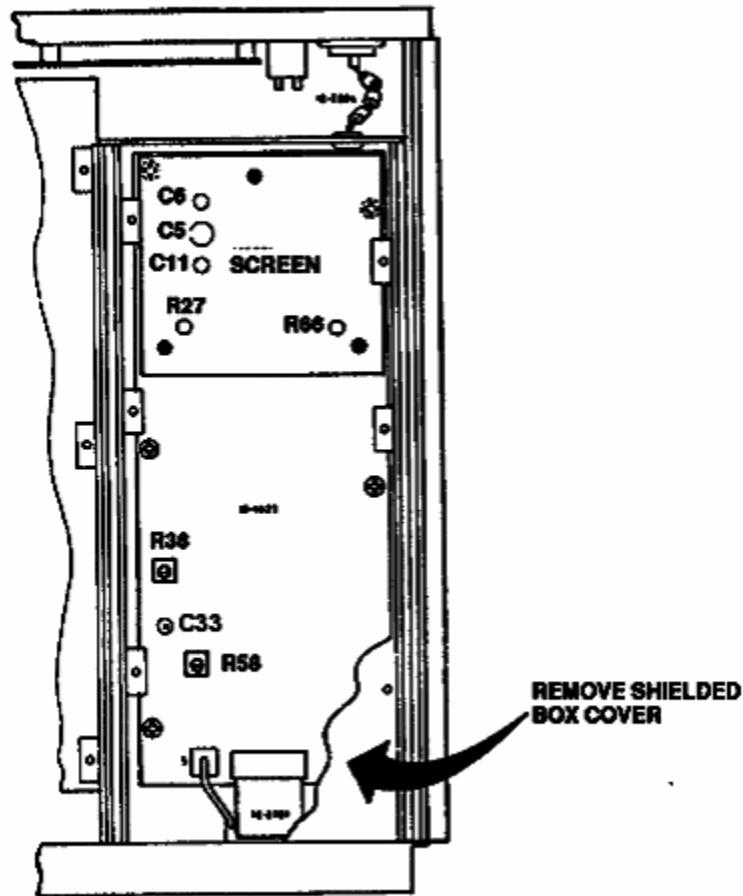

Figure 2. View of underside of module assembly.
3Figure 2.
(1) Set calibrator output for an initial 1.000V, 1kHz wideband output. Adjust calibrator for TI indication equal to the value recorded in table 3 for 1.000V, 1kHz, to establish a 1 kHz reference. Press calibrator **NEW REF** pushbutton.
(2) Set calibrator frequency to 10 MHz and adjust A3C33 fig. 2 for value recorded in table 3 for 1.000V, 1 kHz. Repeat steps 8 a (4) through (6) above (R).